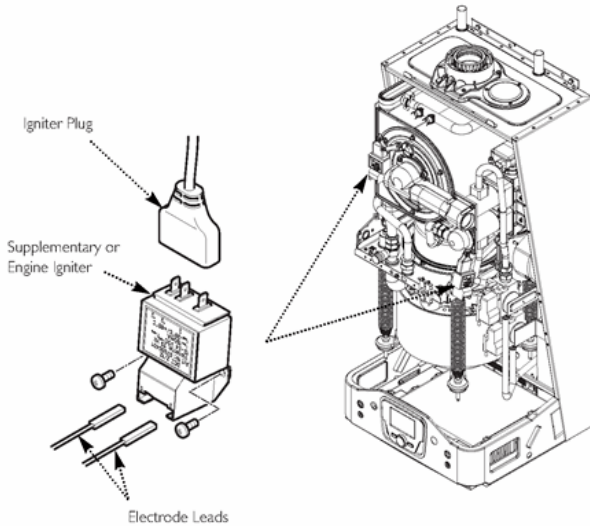

Fig. 56
14.1 Supplementary & Engine Igniter (Fig. 56)